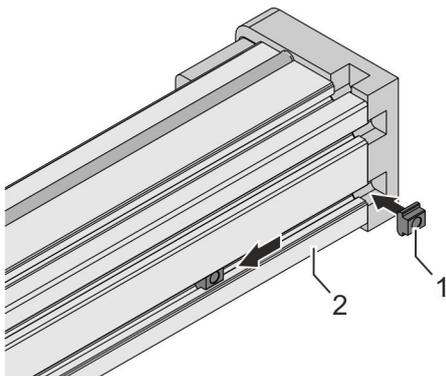

Fig. 22: Inserting slot stones
2. ➔ Insert slot stones (Fig. 22/1) into the slot(s) on the underside of the guide profile (Fig. 22/2).